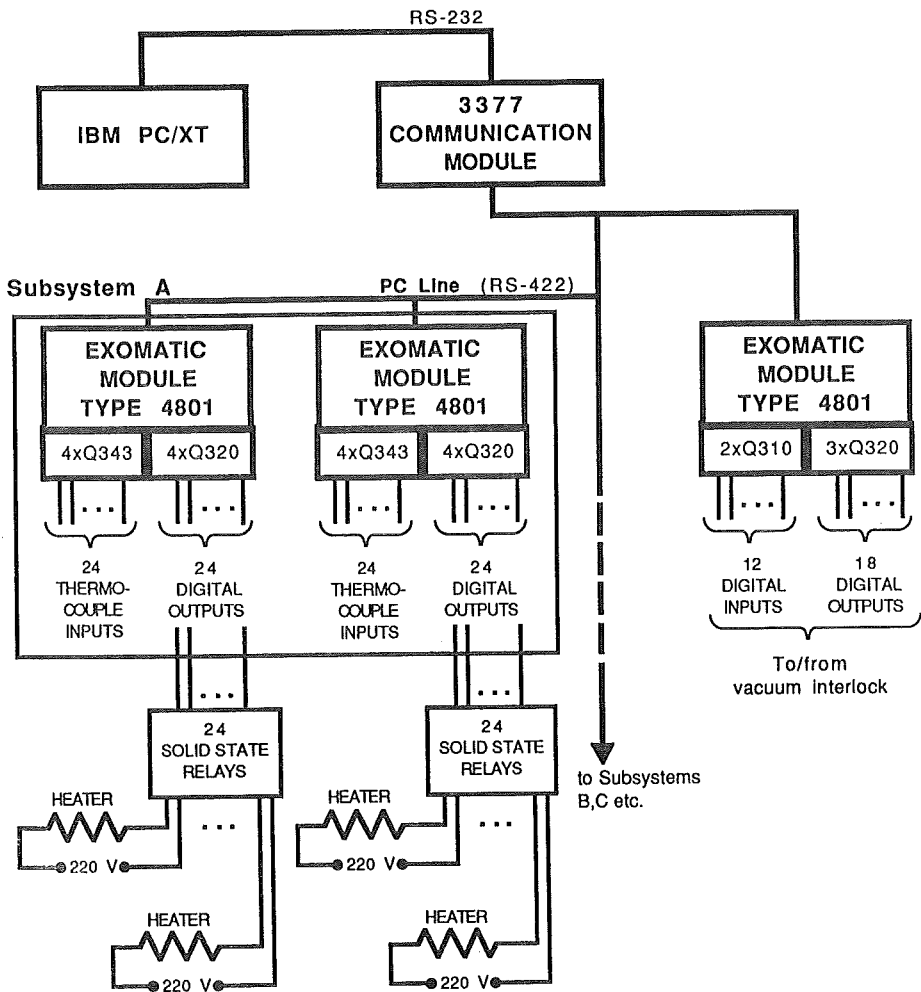

Figure 5. Block diagram of the bakeout control system.
2.6 Baking. All the vacuum system is, with minor exceptions such as the above mentioned SPS flanges, bakeable to 300 °C. The bakeout heaters are either company-fabricated jackets or for straight tubes and in the magnet gaps heating tape plus heat-insulating material. In the bending-magnet gaps there is only room for 10 mm heat insulation, otherwise the thickness is 25 mm. Special metal-collar heaters have been manufactured for all Conflat and SPS flanges. Nonmagnetic thermoelements of type E (Chromel/Constantan) are used. The power is controlled by an Exomatic⁶ microprocessor control system, described in more detail in ref ⁷. We have three subsystems, operable separately or together, having 48, 24 and 24 channels, respectively. There are thermoelement inputs and power-control outputs for solid-state relays (triacs). An IBM PC/XT or AT is used for operation and temperature display. A block diagram of the Exomatic hardware with communication lines and connected heaters is given in figure 5. It is also shown that the bakeout-control and vacuum-interlock systems are connected with each other by means of digital inputs and outputs in order to exchange relevant information.